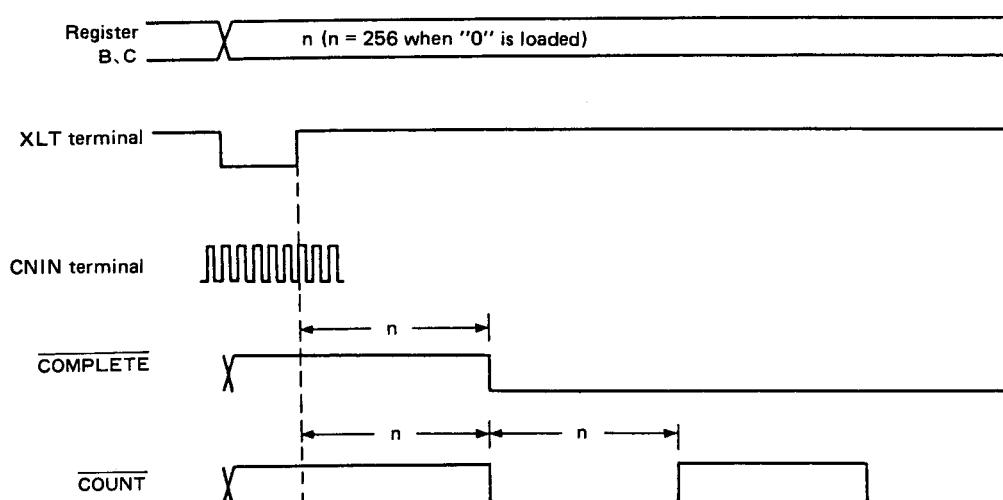

Fig. 9-4 Tracking counter timing chart
The tracking counter timing chart is shown in Fig. 9-4.
1. COMPLETE : Address is "B"; Shown in Fig. 9-4.
2. COUNT : Address is "C"; Shown in Fig. 9-4.